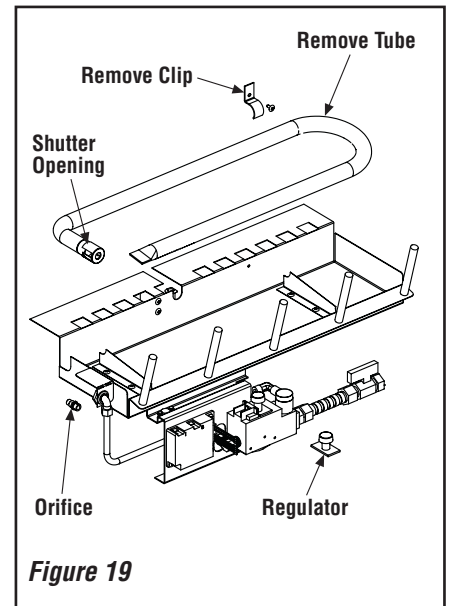

Figure 19
Step 3. Refer to *Figure 19*. Remove the burner assembly with attached venturi tube.
Step 6. (Refer to **Figure 19** on page 15)
B. Retrieve the burner and slide the venturi tube over the orifice. Secure the burner in place with the clip shown in **Figure 19**.